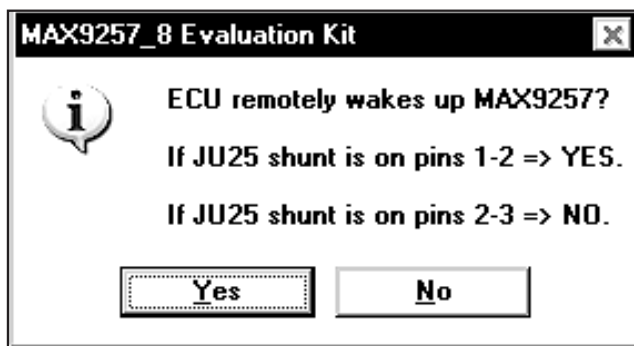

Figure 1. MAX9257/MAX9258 Evaluation Kit Software—MAX9257 REM Status
- 12) Press the **Yes** button on the popup window (Figure 1), which verifies if the ECU remotely wakes up the MAX9257. If the REM pin of the MAX9257 is set to high, the ECU should wake up the MAX9257 by setting the REG08 PD bit to low. If the REM pin of the MAX9257 is set to low, the MAX9257 is powered up when VCC is applied.